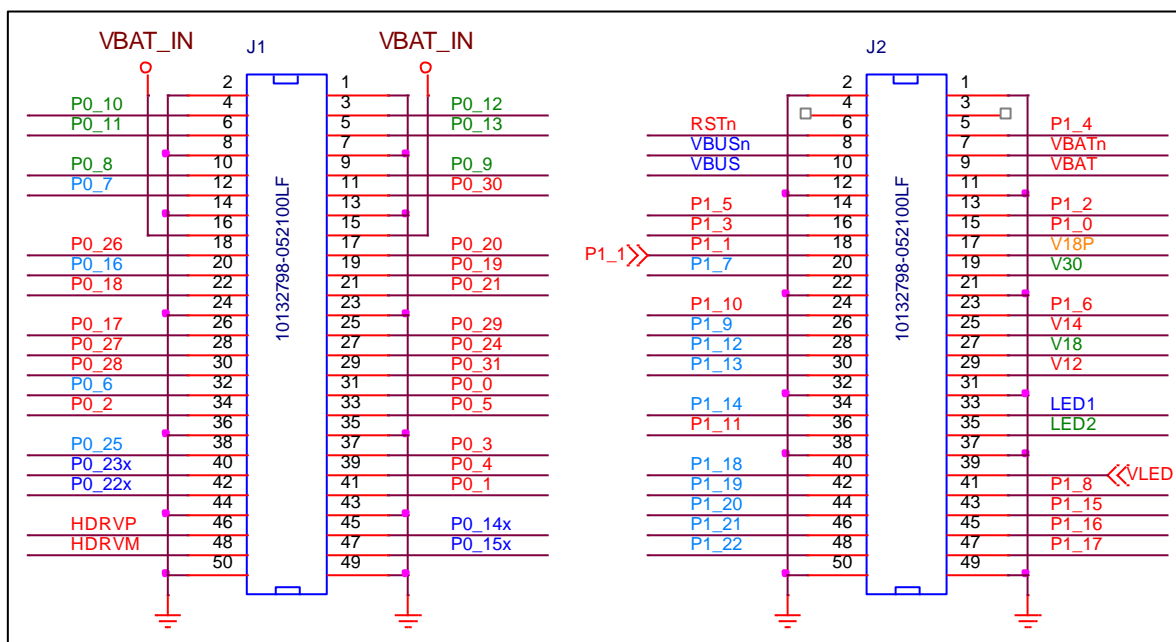

Figure 11: Connection to Mainboard
- Low profile connectors (2x, placed on the bottom of the PCB, Figure 11) matching a set of mating connectors on the main board (J1, J2)